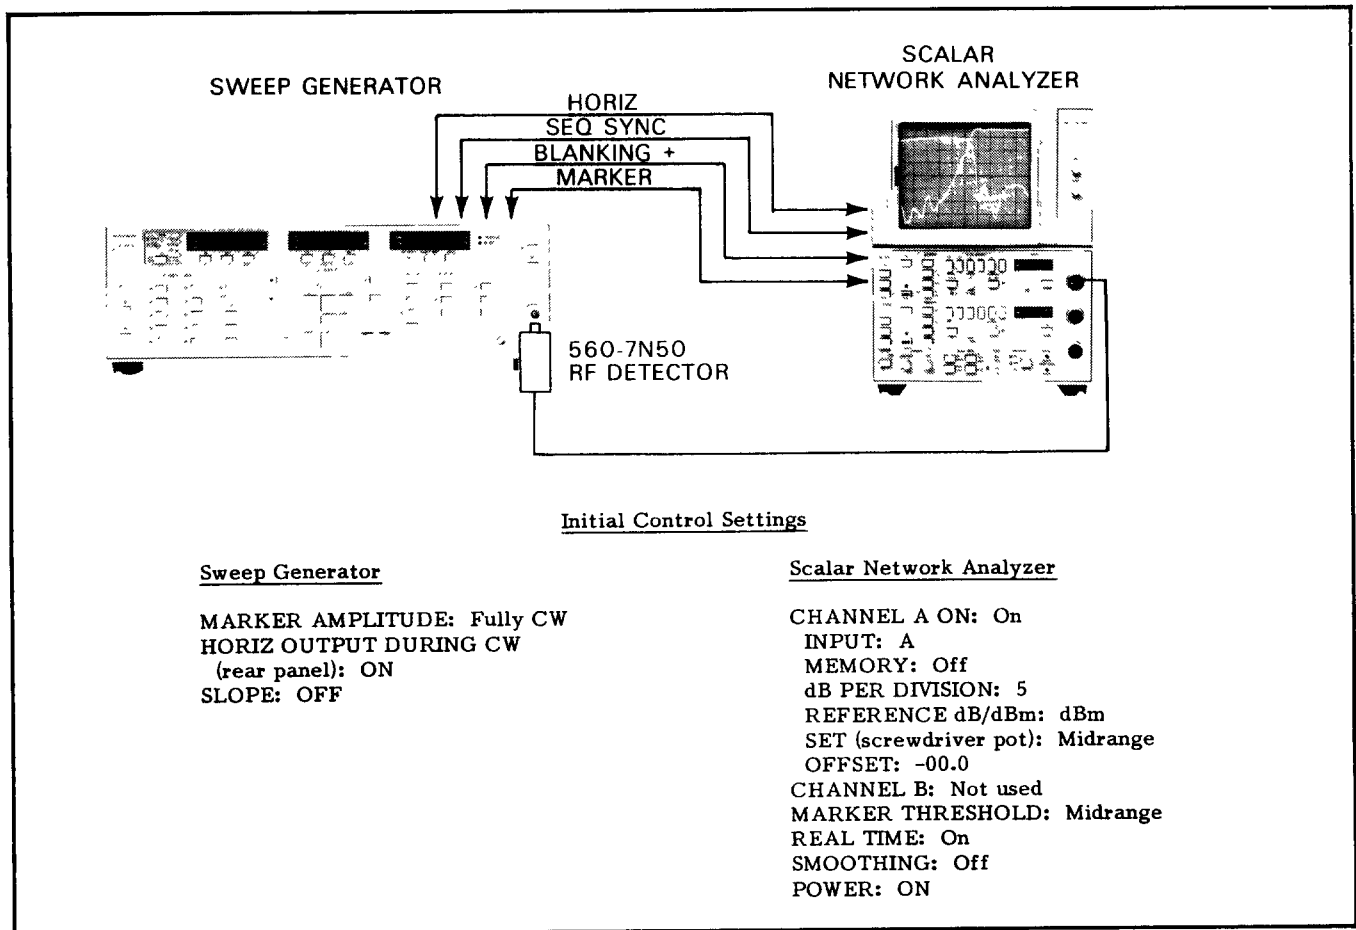

Figure 3-21. Equipment Setup for Confidence Test
This paragraph provides the confidence test procedure for the sweep generator. Figure 3-21 shows the test setup and Table 3-4 gives the test procedure.
1. Connect the equipment as shown in Figure 3-21.